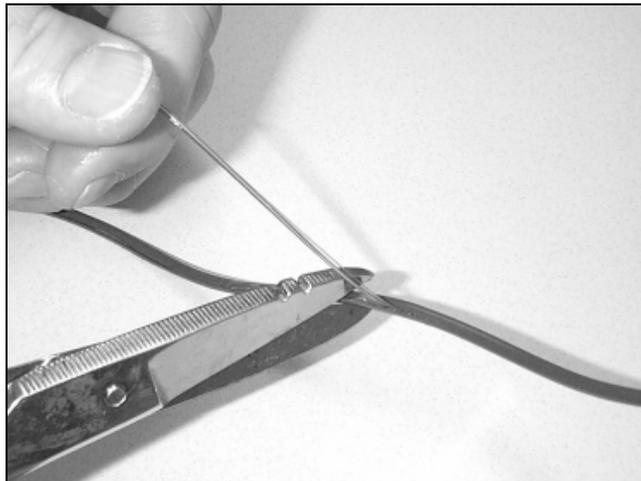

Figure 4 – Cut the two sections of split buffer tube.
5.8 Carefully cut and remove the two sections of split buffer tube (Figure 4).